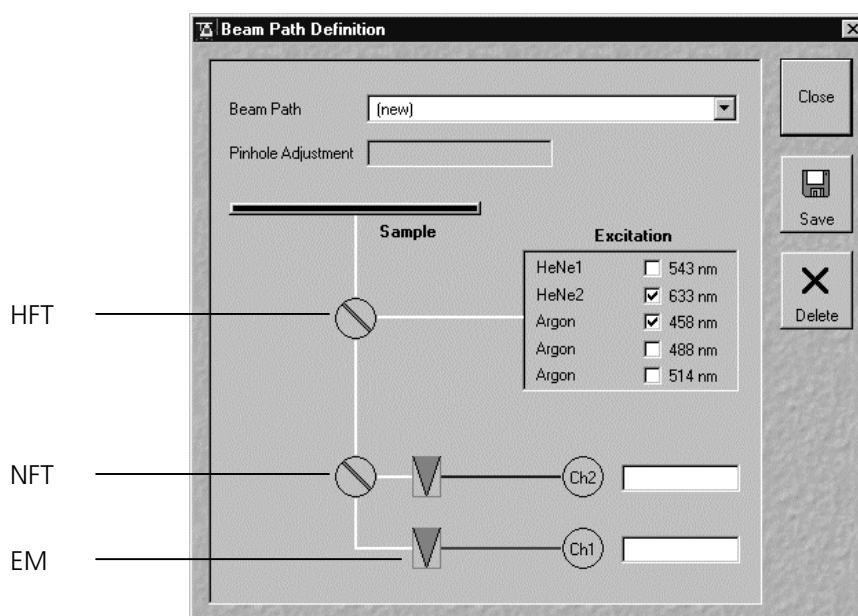

Fig. 3-71 Beam Path Definition window
Activation / deactivation of a main dichroic beam splitter (HFT) or secondary dichroic beam splitter (NFT) through selection from the relevant list box (Fig. 3-71).
Activation / deactivation of an emission filter (EM) through selection from the relevant list box (Fig. 3-71).